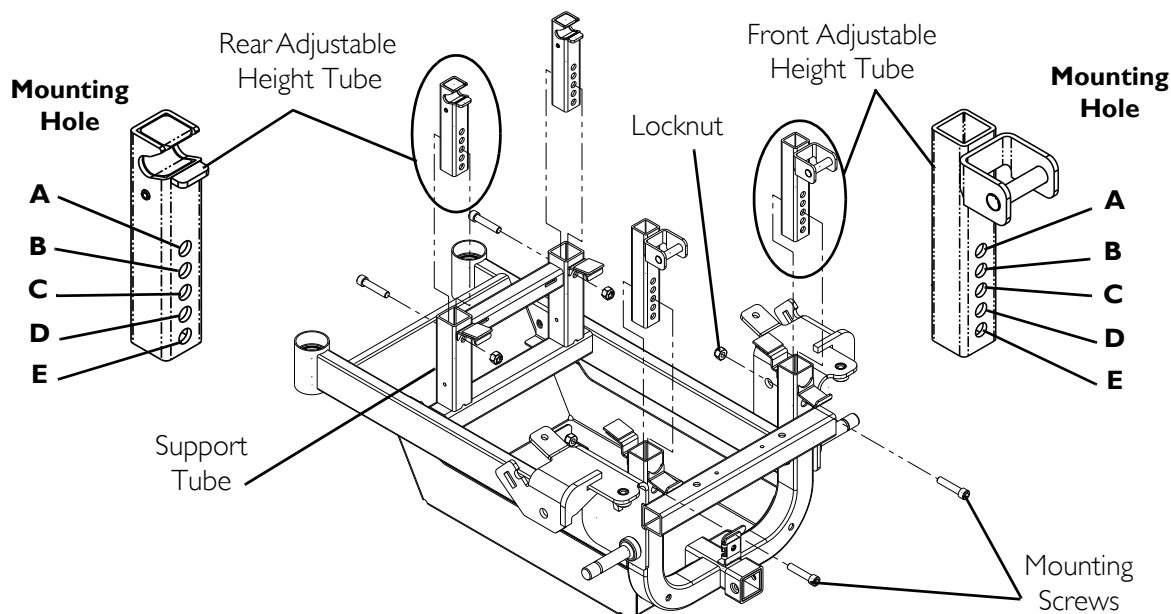

FIGURE 7.4 Adjusting the Seat Height
NOTE: For this procedure, refer to FIGURE 7.4 on page 38.
4. Reinstall mounting screw and locknut (FIGURE 7.4). Securely tighten.